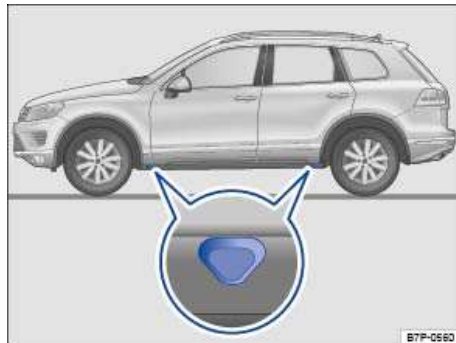

Fig. 338 Lift points for the jack.
The jack must be positioned at one of the 4 lift points marked on the vehicle body (2 on each side as shown in ⇒ fig. 338). You must use the lift point closest to the wheel being changed ⇒ ⚠.
7. Find the jack lift point ⇒ fig. 338 on the vehicle frame that is closest to the wheel to be changed.